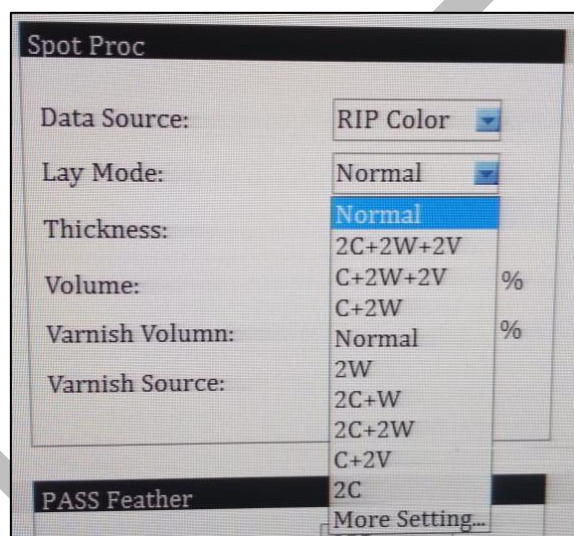
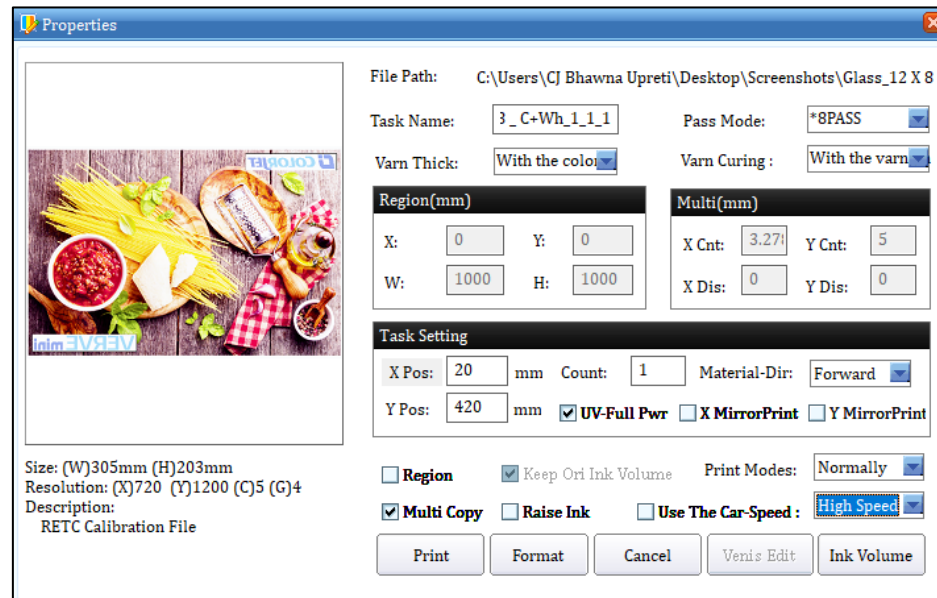

Fig 23: Layer Mode and Its Related Options
Fig 27: Displaying the Properties Dialog Box
Click on the **Ink Volume** button on the Properties dialog box (Refer to Fig 23) to check the requirement of each color ink to print the selected image. The **Image Color Ink Volume** screen appears as shown below:
To change the print format like margin and image height/width, click on the **Format** button (Refer to Fig 23). The **Print Format** dialog box appears as shown below:
Step 3: After selecting the file, click on the **Open** button (Refer to Fig 27). The **Properties** dialog box appears with printing options of the selected image file (Refer to Fig 23).